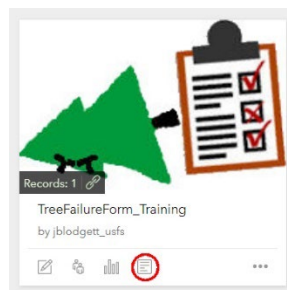

Figure 14. Select the "Data" icon.
- 4) Select "Data" icon, box with lines figure (**Figure 14**). This will open the associated map and data page.